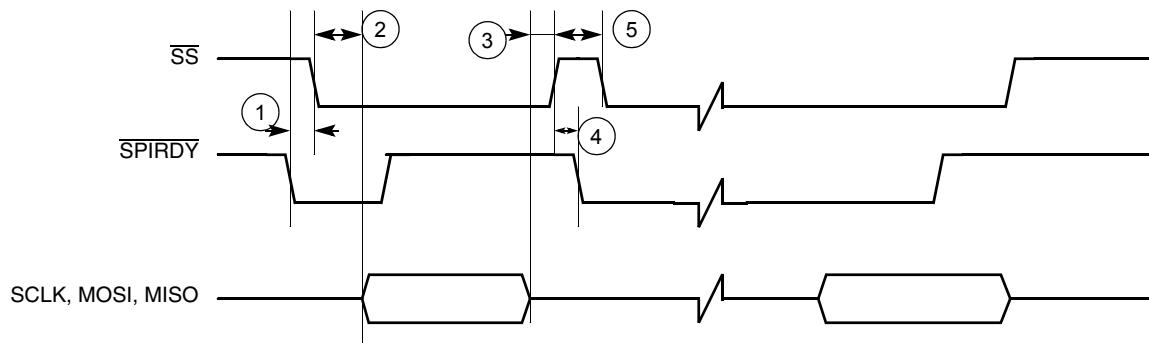
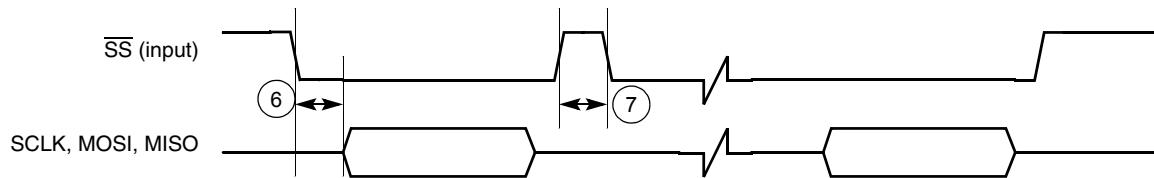

Figure 31. Master SPI Timing Diagram Using SPI_RDY Edge Trigger
Figure 35. Slave SPI Timing Diagram FIFO Advanced by SS Rising Edge
To utilize the internal transmit (TX) and receive (RX) data FIFOs when the SPI 1 module is configured as a master, two control signals are used for data transfer rate control: the \overline{SS} signal (output) and the SPI_RDY signal (input). The SPI 1 Sample Period Control Register (PERIODREG1) and the SPI 2 Sample Period Control Register (PERIODREG2) can also be programmed to a fixed data transfer rate for either SPI 1 or SPI 2. When the SPI 1 module is configured as a slave, the user can configure the SPI 1 Control Register (CONTROLREG1) to match the external SPI master's timing. In this configuration, \overline{SS} becomes an input signal, and is used to latch data into or load data out to the internal data shift registers, as well as to increment the data FIFO. Figure 31 through Figure 35 show the timing relationship of the master SPI using different triggering mechanisms.
Table 14. Timing Parameter Table for Figure 31 through Figure 35